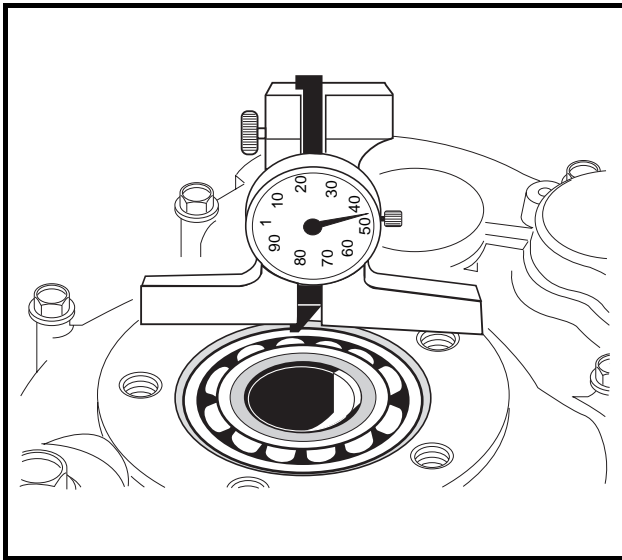

Figure 17b-20 Depth Gauge
If the differential case (36 and 33), transaxle housing (11 and 24), or axle tube (16 and 40) has been replaced, the transaxle may need new shims. To determine whether new shims are necessary, the transaxle must be completely assembled except for the short axle tube (16) and both axle shafts (1 and 2) (**Figure 17b-4, Page 17b-3**).
2. Using a depth gauge, measure the distance from the gasket seal surface of the axle tube to the outer race of the bearing (14) on the differential case assembly (32) (**Figure 17b-4, Page 17b-3**). See also **Figure 17b-20, Page 17b-13**.